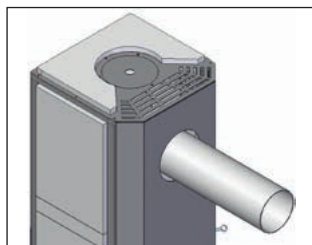

Fig. 3a
**Assembly from the rear to the top:** If the chimney connecting piece is already assembled, please remove (Fig. 3a). Remove the two cover lids at the top (Fig. 3a). Undo the hexagonal bolts and remove the cover plate (Fig. 3b). Then disassemble the pipe nozzle of the rear outlet, to this end undo the screws (Fig. 3b). Assemble the pipe nozzle on the top flue gas connection (Fig. 3c). Then assemble the cover plate on the rear flue gas connection (Fig. 3c). Finally reassemble the cover lid for the rear flue connection, the chimney connecting piece and the cover plate (Fig. 3d).